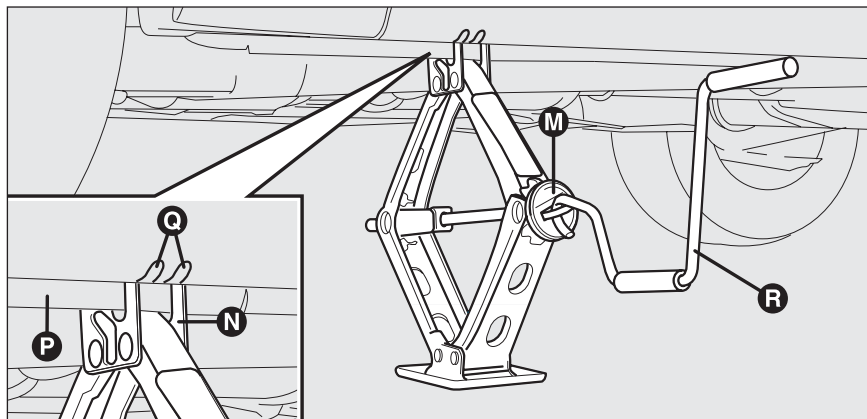

fig. 6
- work the jack crank **M-fig. 6** to extend it until the groove **N** on the upper part of the jack is correctly inserted on the lower profile **P** of the body in point **Q** (at approx. 72 cm from the front wheel centre or 75 cm from rear wheel centre);
- fit the handle **R-fig. 6** to operate the jack and raise the car until the wheel is a few centimetres from the ground;
- work the jack handle **R**-fig.6 to lower the car and remove the jack;